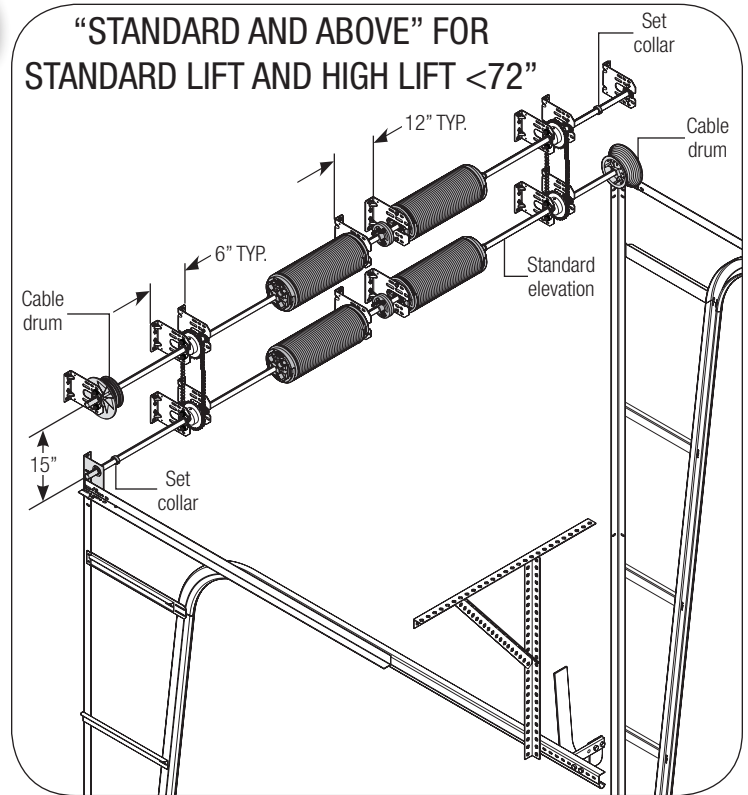
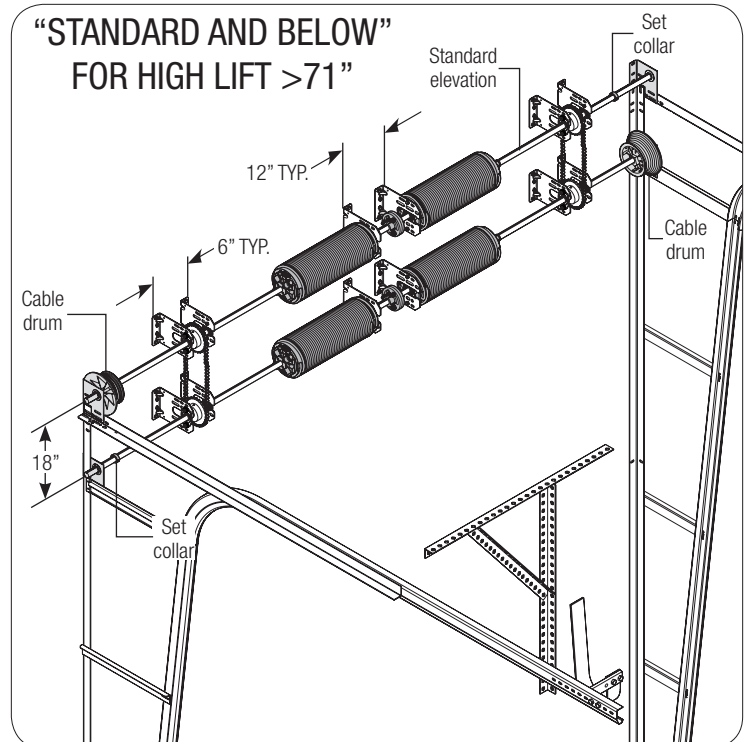

FIG. 1.1
FIG. 1.2
**For standard lift and high lift under 72"** will have the normal shaft assembly and an upper shaft assembly, as shown in FIG 1.1.
**For High lift over 71" and all vertical lift applications** it will have the standard shaft assembly and a lower shaft assembly, as shown in FIG 1.2.
**NOTE:** Refer to FIG 1.1, FIG 1.2, and FIG 1.3.
Assemble the torsion shaft assembly with the sprockets DSB's, drums, and shaft collar per **FIG 1.1**, **FIG 1.2**, **FIG 1.3**. Place one shaft collar on each shaft assembly at the opposite end of the drum, against the bearing race at the end of the bracket (which prevents the shaft assembly from shifting).